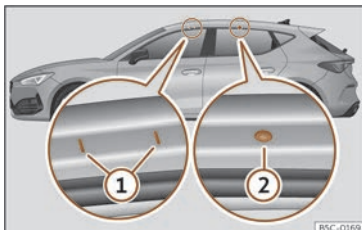

Fig. 193 Mounting points for the roof bars for the roof rack (Leon).
Valid for Leon: The front and rear attachment points (1) and (2) are only visible when the doors are open >>> **Fig. 193**.